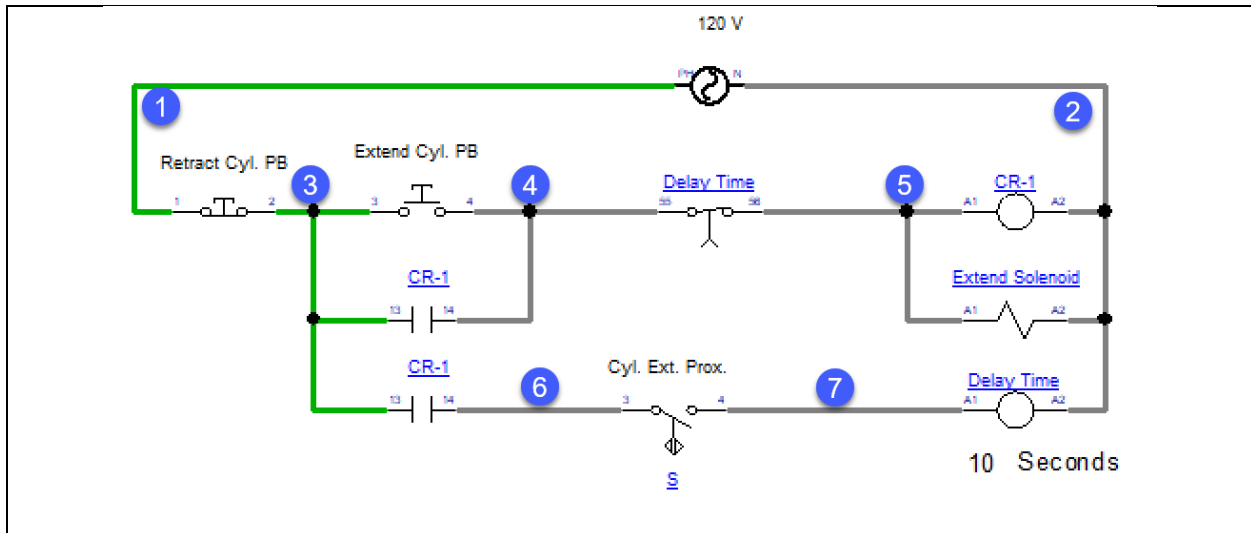

Figure 5. The electrical control circuit of circuit 2.
12. Figure 5 shows just the electrical control circuit for circuit 2. Click the **Extend Cy. PB** switch to start the cycle.